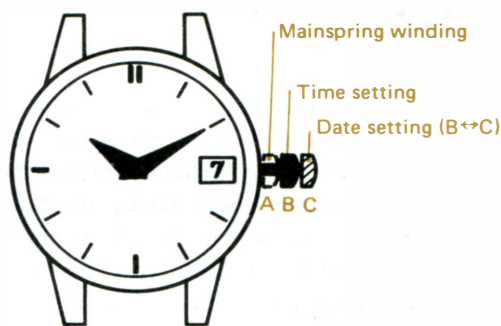

Fig. 1
- The crown of watches for Cal. No. 531\*, 532\* and 511\* can be pulled out to two stop positions, B and C. Mainspring winding, time setting and date setting are performed as show in Fig. 1.